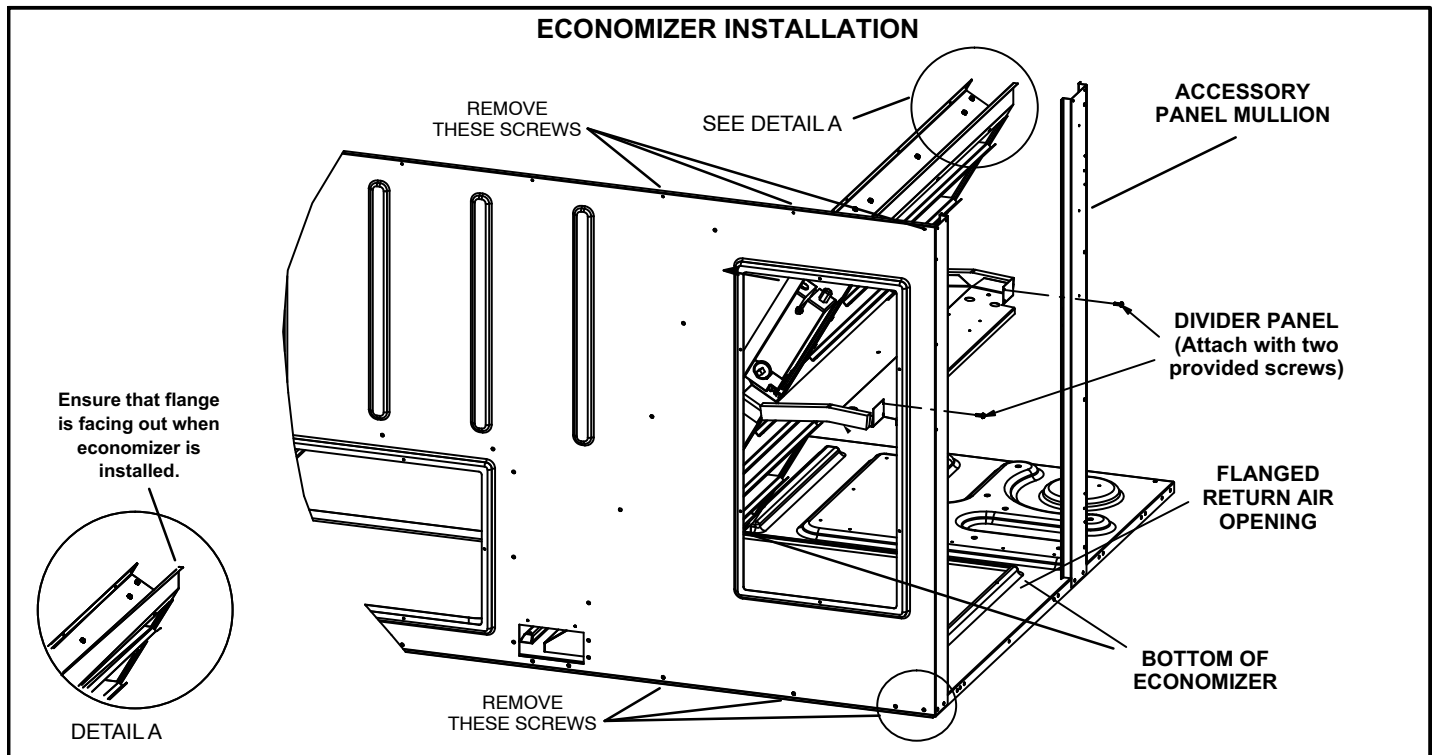

FIGURE 1
- 3- Remove and retain screws from top and bottom of rear panel. Lift the top of the unit as needed. See figure 1.
- 4- Slide the bottom of the economizer over the flanged return air opening in the base of the unit until it settles into place. See figure 1.
- 5- Use provided screws to secure economizer divider panel to unit end mullion and accessory compartment mullion as shown in figure 1.